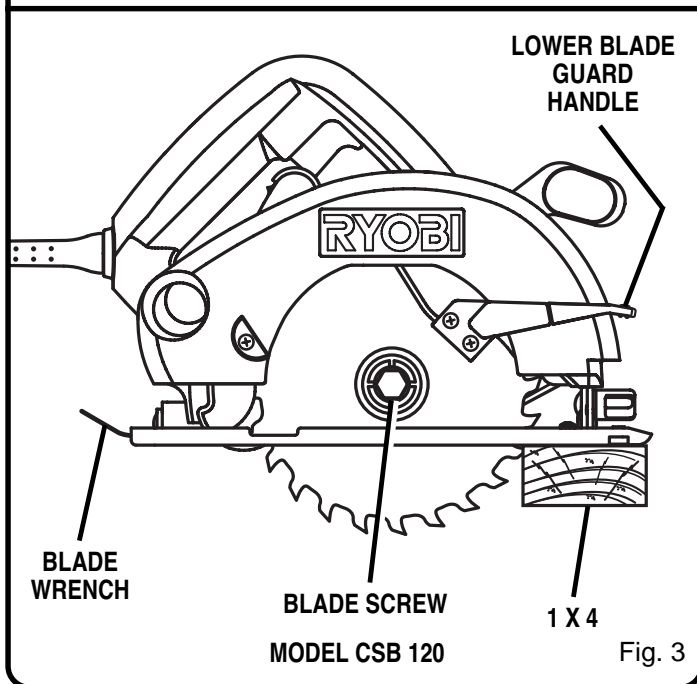

Fig. 3
- Place your blade on a piece of scrap as shown in Figure 3 and remove blade screw.